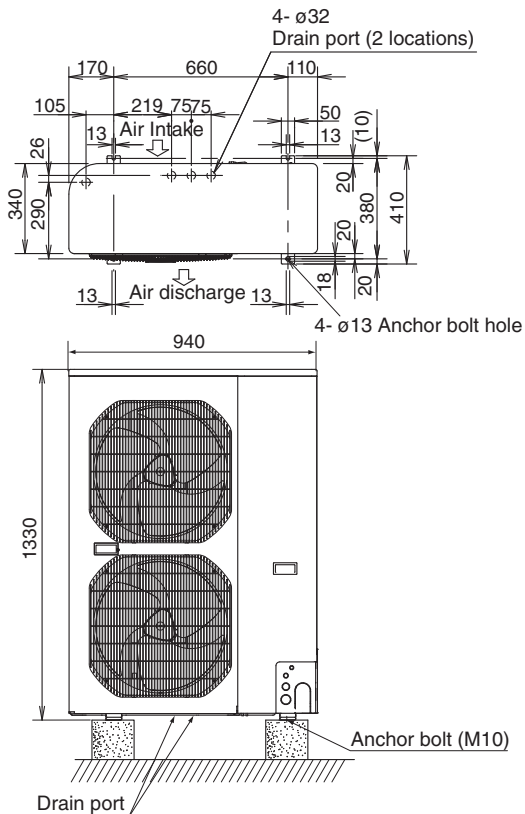

Fig. 3-1
- Refer to Fig. 3-1 for the anchor bolt dimensions.
- For the drain port dimensions, refer to Fig. 3-1.